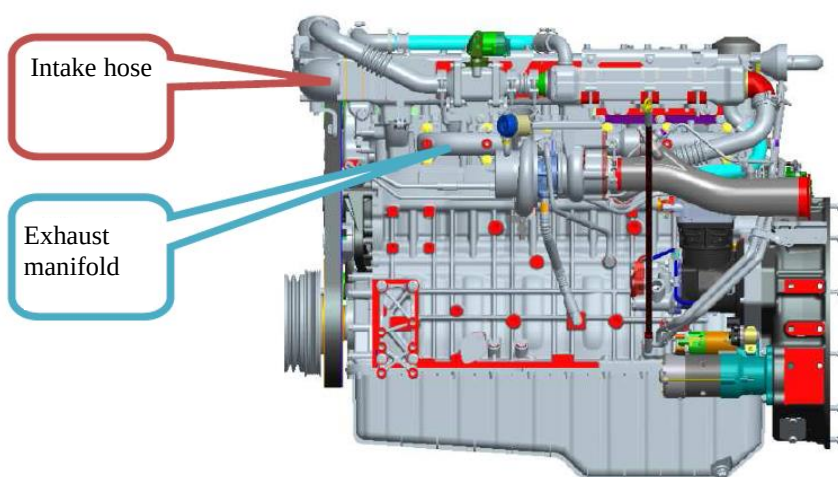

Fig.2-12 Intake/exhaust pipe
- Check the intake system (see the fig. 2-12)